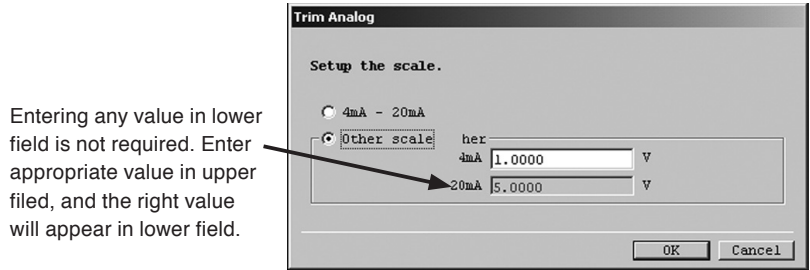

Fig.77
- ⑦ To abort the trim process, click on "Cancel" button and follow the instructions at the prompt on the screen.
- ⑧ If you selected "Other scale" at the message box as shown in Fig. 77, you can enter other scale as shown in Fig. 110. Keying in an analog value corresponding to the 4mA output (1V in this case) in the upper field (4mA setting) results in entering a corresponding value in the lower field (20mA setting) automatically.